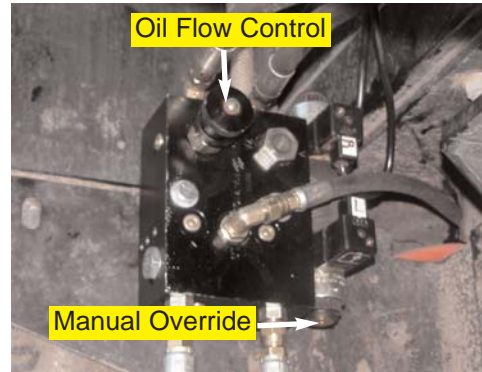

Figure 8. Automated Steering oil flow control knob and manual override.
- Turn counter-clockwise to increase flow. (Figure 8.)
- f. Count the number of seconds for the sprayer wheels to move all the way in the opposite direction while pressing the manual override of the other coil. (Figure 8.)
- f. Adjust the Automated Steering oil flow control to achieve an end-to-end steering cycle time of approximately **14** seconds. Use the knurled locking nut to secure the final flow control setting. (Figure 8.)